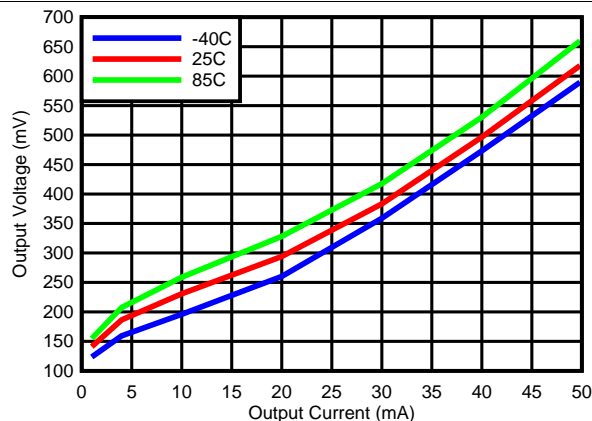
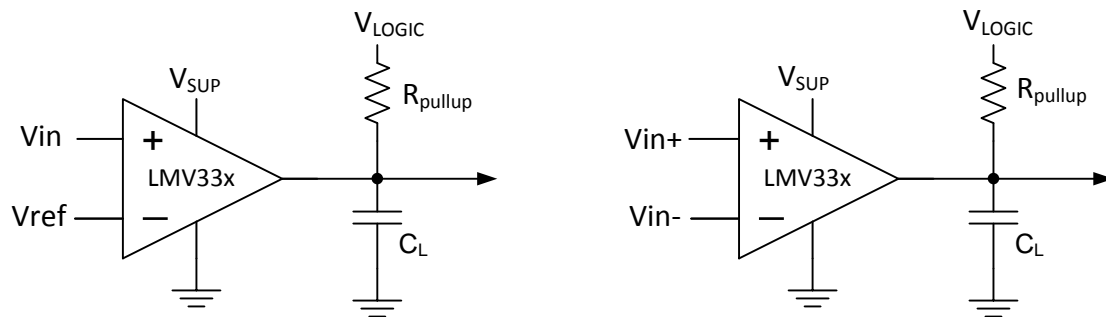

Figure 3. Output Voltage vs Output Current
Figure 9. Typical Application Schematic
The output consists of an open drain NPN (pull-down or low side) transistor. The output NPN will sink current when the positive input voltage is higher than the negative input voltage and the offset voltage. The V_{OL} is resistive and will scale with the output current. Please see Figure 3 for V_{OL} values with respect to the output current.
Output current is determined by the pull-up resistance (R_{pullup}) and V_{logic} voltage, refer to Figure 9. The output current will produce a output low voltage (V_{OL}) from the comparator. In which V_{OL} is proportional to the output current. Use Figure 3 to determine V_{OL} based on the output current.
- R_{CE} can be determine by taking the slope of Figure 3 in it's linear region at the desired temperature, or by dividing the V_{OL} by I_{out}